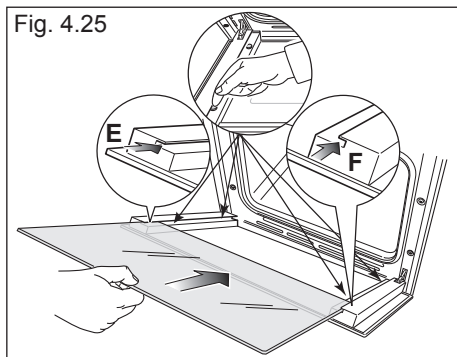

Fig. 4.26
- Insert the pane in the left "E" and right "F" slide guides (fig. 4.25), and gently slide it to the retainers "H" (fig. 4.26).